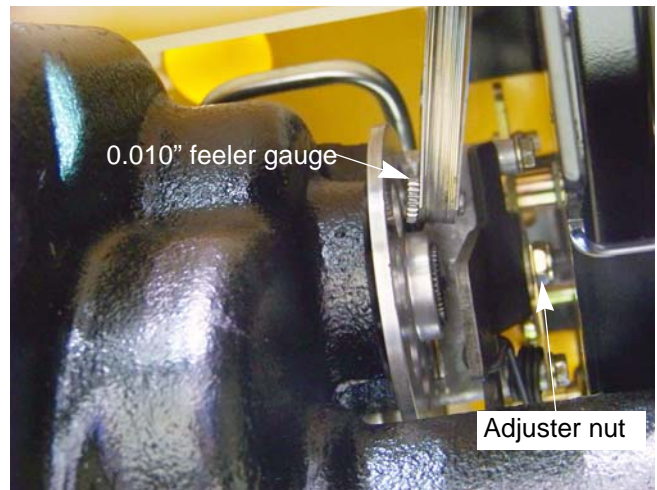

Figure 3.4
NOTE: In Figure 3.4, the by-pass rod was removed for a clearer view of the caliper.
2. Adjust the gap, if necessary, so that the feeler gauge slips between the pad and the rotor with light pressure. See Figure 3.4.